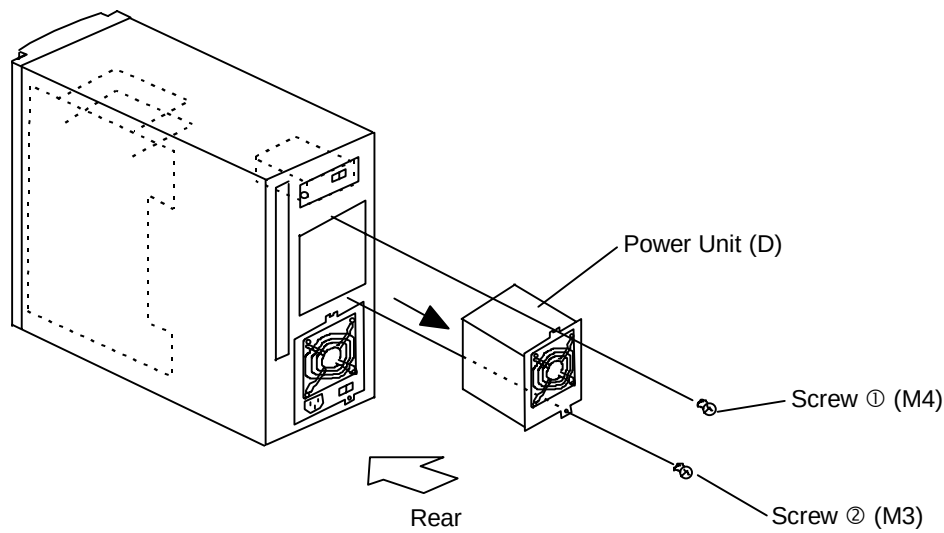
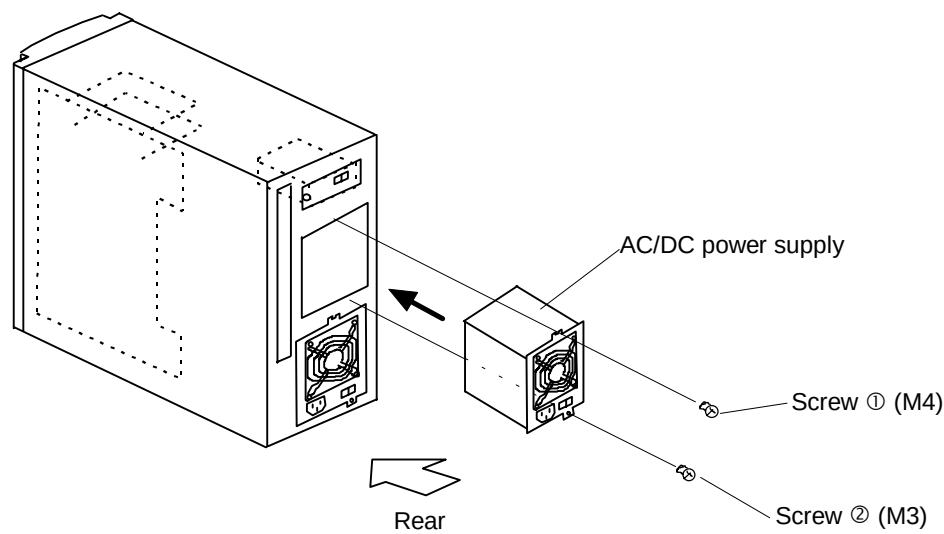

Figure 2.7.1 Removing the Power Unit (D)
Figure 2.7.2 Removing the AC/DC Power Supply
(1) Removing procedure
- ① Loosen the screws ①, ②. (See Figure 2.7.1.)
- ② Disconnect the power cable.
- ③ Removeing the Power Unit (D).
(2) Installing the AC/DC power supply
- ① Insert the AC/DC power supply into the right place.
- ② Tighten the screw ①, ②. (See Figure 2.7.2.)
- ③ Connect the power cable.
- ② Loosen the screws ①, ②. (See Figure 2.7.1.)
- ③ Disconnect the power cable.
- ④ Removeing the Power Unit (D).
(4) Installing the AC/DC power supply
- ④ Turn on the subsystem following the power-on procedure explained in DH-REP0050.